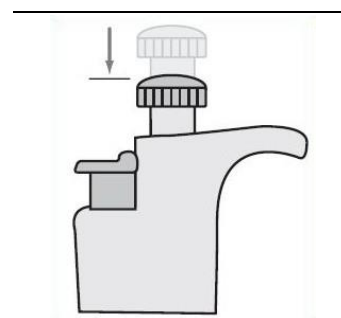

Figure 1.3a The first stop
7. Load the micropipette with 20.0 μL of red dye solution (RD) as follows:
- d. Use your thumb to press the plunger to the first stop position (figure 1.3a), which is your first point of resistance.